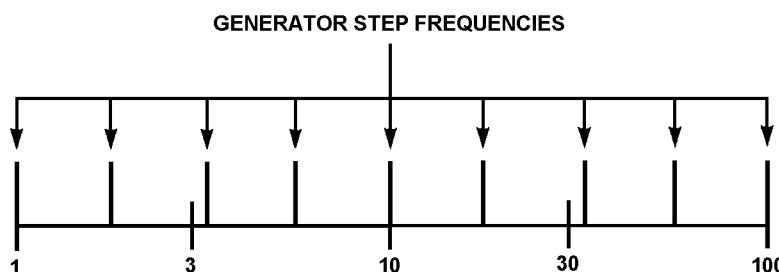

Figure 6.1 - Example of Logarithmic Sweep at 4 Steps per Decade
1. By n steps per decade. The ratio is the n th root of 10. Hence the frequencies appear spaced at equal intervals if plotted along a logarithmic base line. See example, Fig. 6.1.